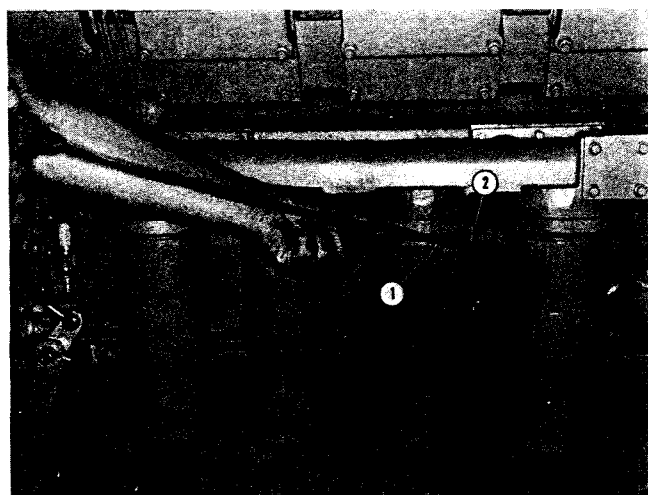

Fig. 2-1, (K21901). Checking engine oil level
1. Check oil level with dipstick oil gauge located on the engine. Fig. 2-1. For accurate readings, oil level should not be checked for approximately 15 minutes after engine shut-down. Keep dipstick with the oil pan with which it was originally shipped. Keep oil level as near “H” (high) mark as possible.